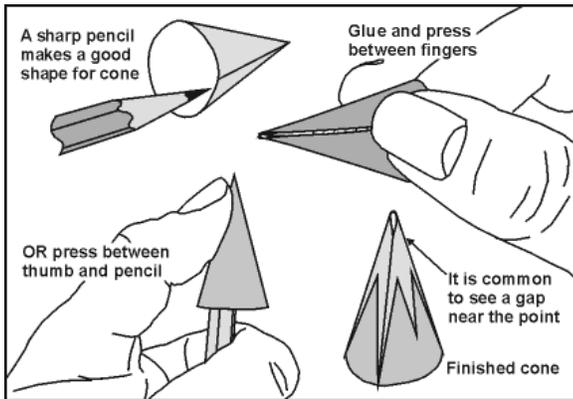

Figure 5
5. **NOTE:** Practice this step **WITHOUT** glue first. Apply a glue film to the glue tab and form the Nose Cone by bringing the other edge over the glue tab as shown in **Figure 5**. Hold the Nose Cone to the proper shape between your fingers or, place the point of a sharp pencil into the Nose Cone and hold with your thumb (as shown on the left side of Figure 5). Hold until the glue is set. The finished cone is shown in Figure 5, bottom-right. **NOTE:** It is normal to see a small gap or hole at the top of the Nose Cone.